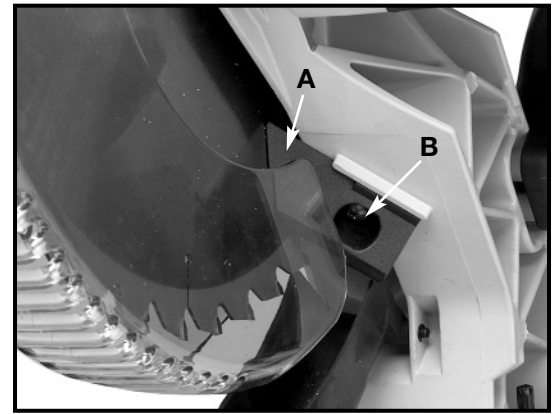

Fig. 22
2. A chip deflector (A) Fig. 22, is supplied to help prevent scrap or cut-off pieces from entering the upper blade guard. The chip deflector (A) should be adjusted so that it is almost touching the side of the blade. Loosen screw (B), adjust chip deflector (A) and tighten screw (B).